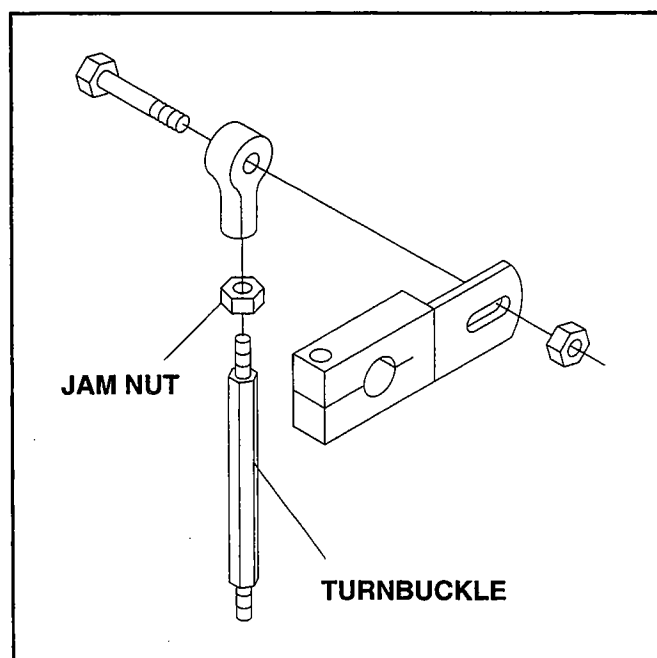

Figure 8
4. Adjust each drive wheel separately by using the turnbuckles. Loosen jam nut on turnbuckle. (See **Figure 8**)